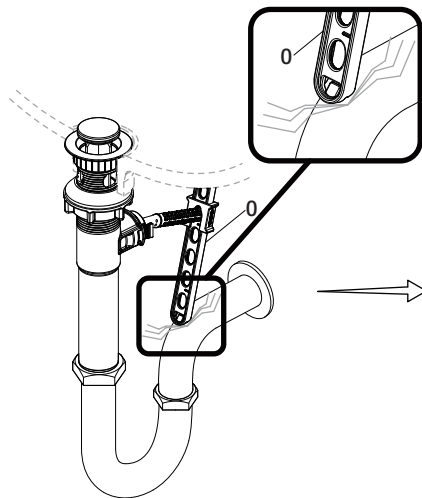

Fig. 1
- If the pop up lift rod strap (O) is interfering with your installation, as shown in Fig. 1, the lift rod strap (O) can be cut shorter.